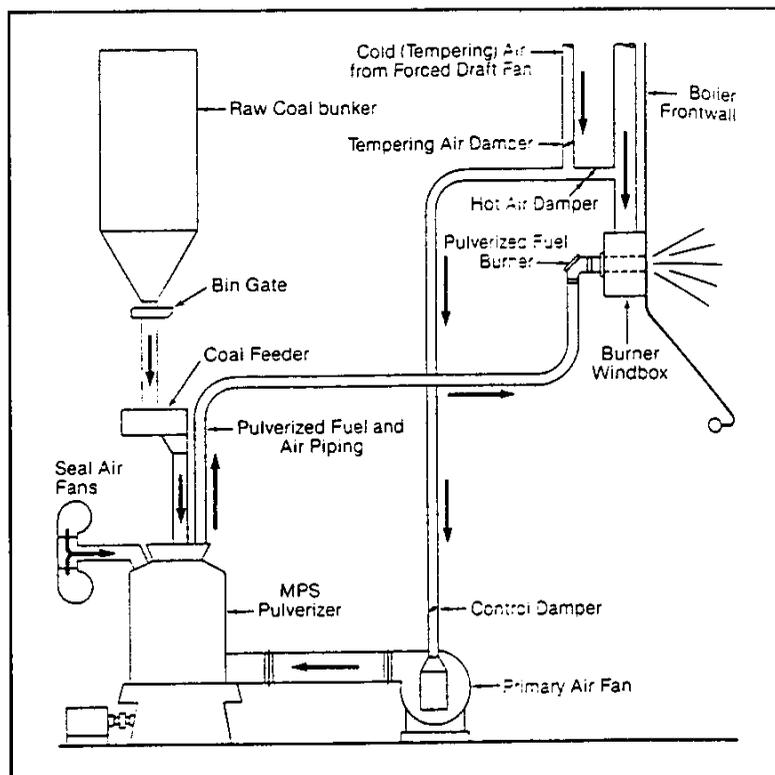

Figure 5-3. Pulverized coal system.
In the basic pulverized coal system (refer to Figure 5-3), the coal bunker (1) stores the coal before it flows onto the coal conveyor (2). The coal drops into the coal scale (3) and is weighed before being dumped into the coal chute (4) that leads to the coal feeder (5).